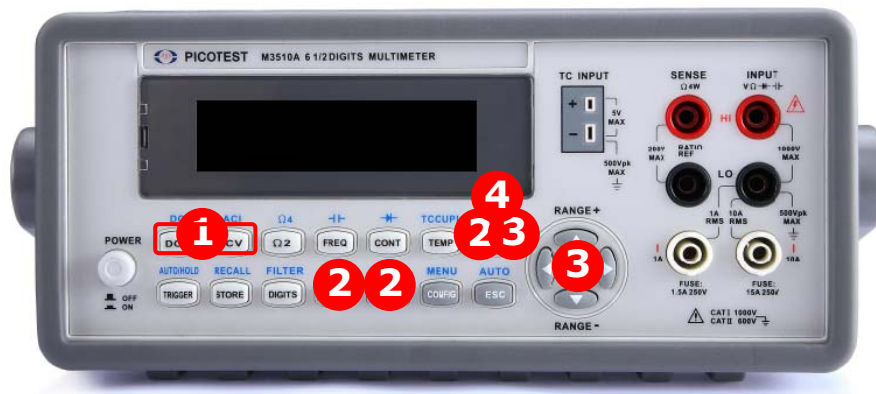

Figure 4-25
1. Select a measurement function by pressing DCV or ACV button as shown in **Figure 4-25**.